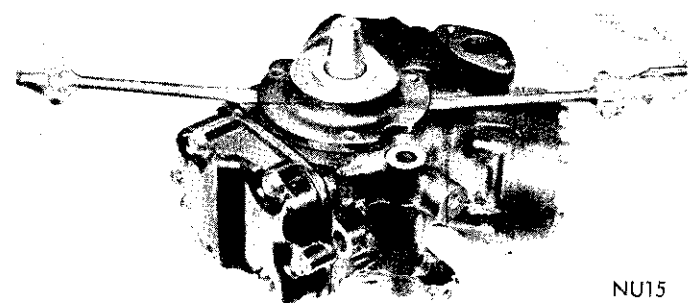

Fig. 12—Removing the Crankshaft Bearing Housing
(1) Loosen belt, remove clutch, coil and drive key.
(2) Remove crankshaft bearing housing seal bolts.
(3) Remove bearing housing from crankshaft, using two screwdrivers inserted in the slots provided, to pry the housing from the case (Fig. 12).
(4) Remove bearing housing oil seal.
(5) Remove gas seal seat plate from the bearing housing. This is part of the gas seal replacement package and must be replaced when the gas seal assembly is replaced.
(6) Clean the front bearing housing thoroughly.